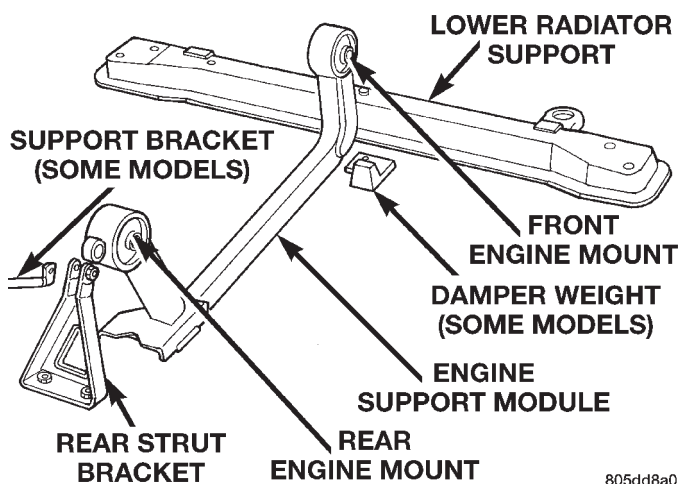

Fig. 16 Engine Support Module
(1) Raise vehicle on hoist.
(2) Remove thru bolt at rear mount and remove bolts attaching module to crossmember.
(3) Remove upper attaching bolt from rear support strut bracket (Fig. 16).
(4) Remove front attaching bolts from support module to lower radiator support.
(5) Support cooling module.
(6) Remove lower radiator support bolts, and remove support.
(7) Remove thru bolt at front mount and remove support module.